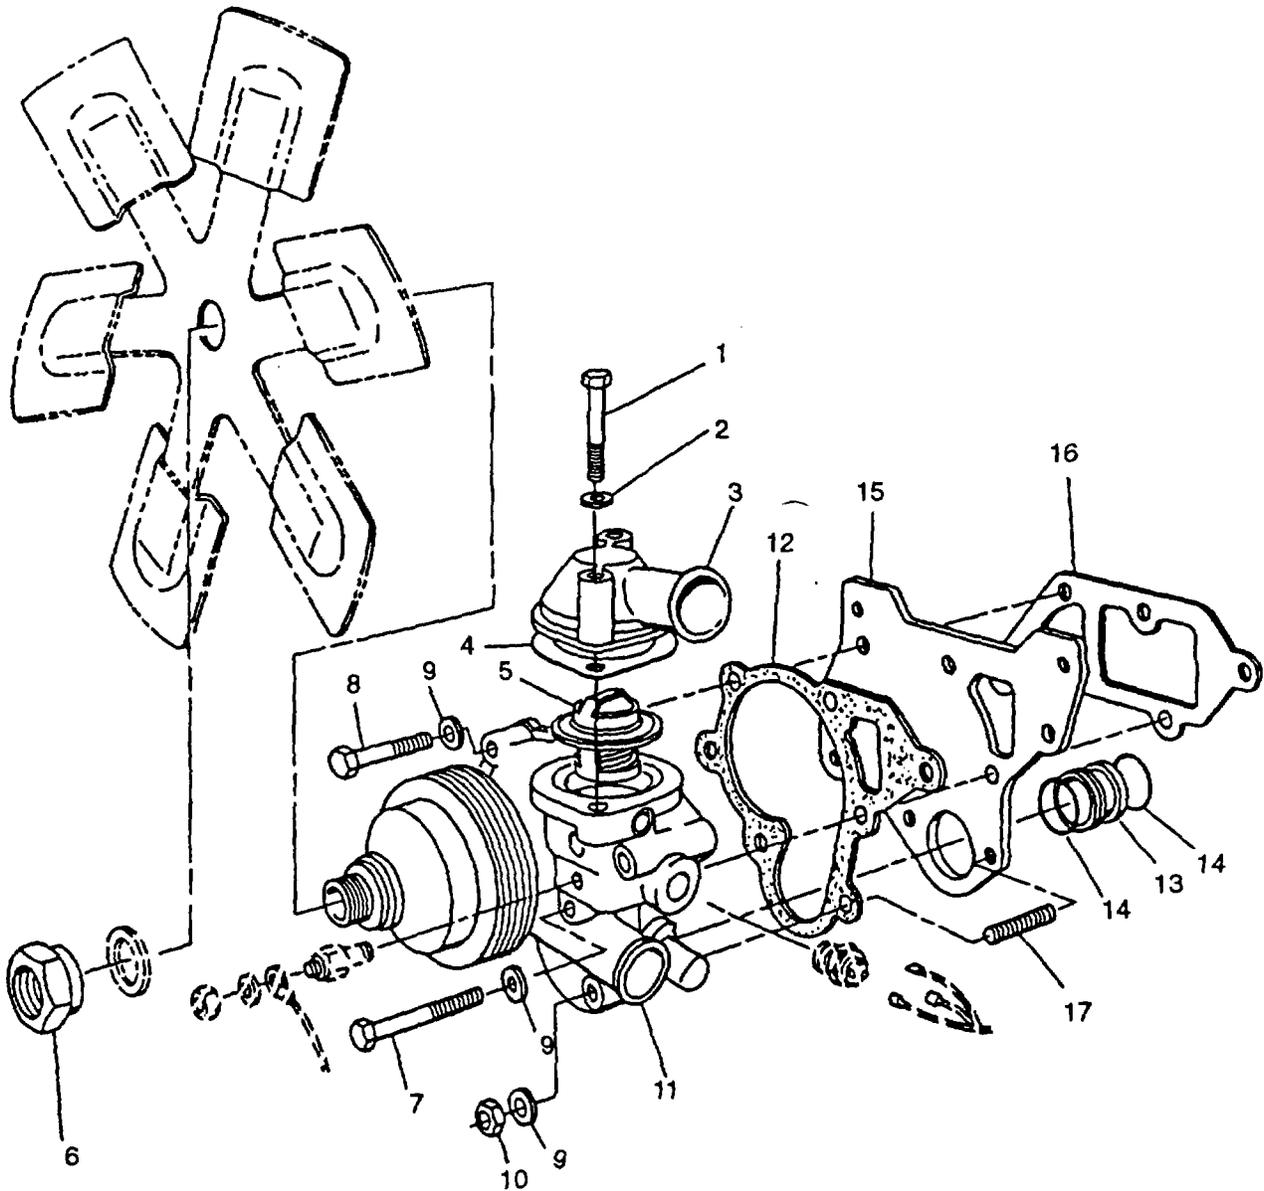

FIGURE 3-4. Cooling System
- c. Loosen hose clamp and disconnect outlet hose from thermostat housing (3, FIGURE 3-4).
- d. Remove two capscrews (1), washers (2), thermostat housing (3), and gasket (4). Discard gasket (4).
- e. Remove thermostat (5) from water pump.
- b. Clean any debris and traces of old gasket from thermostat housing (3, FIGURE 3-4) and water pump (11) mating surfaces. Dry all surfaces.
- c. Install thermostat (5) in water pump.
- d. Install new gasket (4), thermostat housing (3), two washers (2) and cap screws (1).
- e. Connect outlet hose to thermostat housing (3) and secure with hose clamp.
Nut (6, FIGURE 3-4) has left hand threads.
If two water pump studs (17, FIGURE 3-4) have been removed, they must be installed and finger tightened. Do not overtighten as this will cause thread damage preventing a fiat sealing surface.